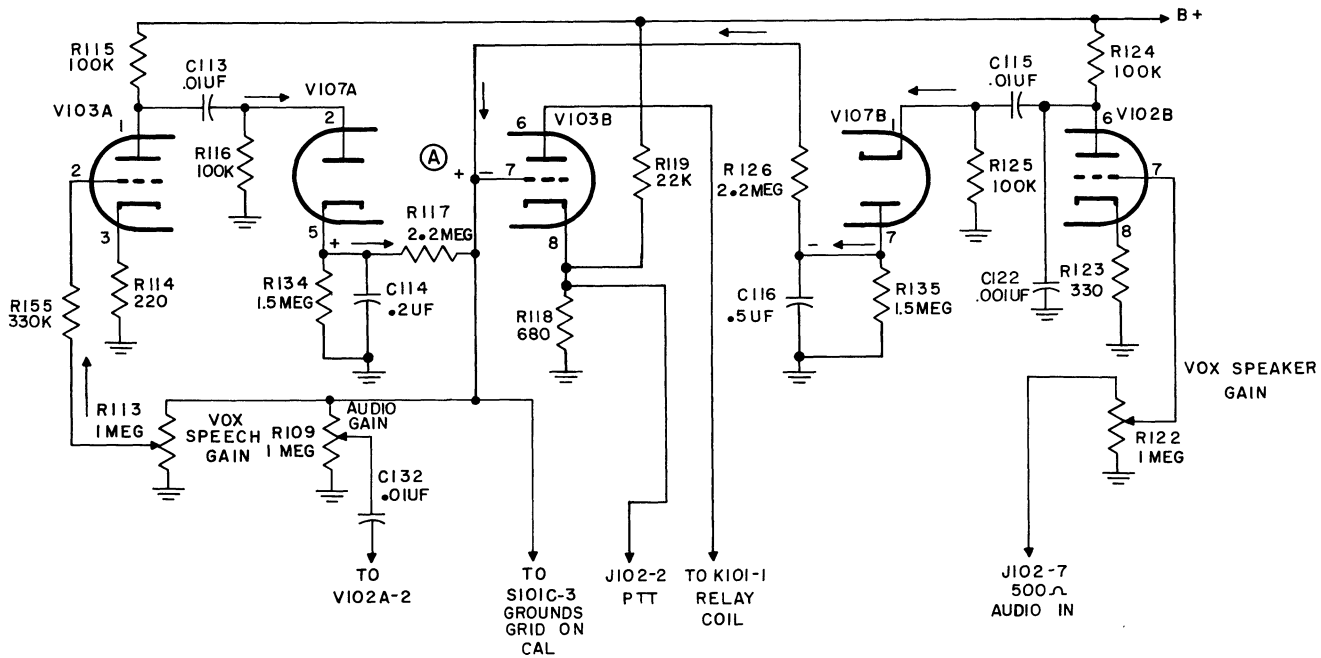

Figure 4-2. VOX Circuits, Simplified Schematic Diagram
Part of the audio output from V101 is taken off the AUDIO GAIN potentiometer R109 and fed through the VOX SPEECH gain control R113 to the control grid of amplifier V103A. Thus, by R113, the amplitude of audio signals applied to V103A is regulated. V103A amplifies the signal, which is then coupled through C113 to rectifier V107A. (See figure 4-2.) This circuit includes the diode d-c return resistance R116, and diode load C114.
The purpose of squelch amplifier V102B and rectifier V107B is to prevent the audio signals of the receiver from operating K101 relay by feedback of the audio signals through the transmitter microphone and audio circuits. A connection is made to the receiver output transformer, which feeds the speaker audio signals into the transmitter through J102-7, through the VOX SPEAKER gain control R122, to the grid of V102B. At the same time, the same speaker signals are feeding through the transmitter microphone into the VOX amplifier V103A to produce a plus voltage on the V103B grid, to operate relay K101. However, the voltage applied to the V102B squelch circuit is amplified and fed through C115 to the cathode of rectifier V107B. This rectifier circuit is identical to V107A, except V107B is connected in reverse, such that a negative voltage is produced and applied through R126 to the grid of relay amplifier V103B. This occurs at the same time the plus voltage is being applied from V107A, at point (A) in figure 4-2. The plus and minus voltages are adjusted by potentiometers R113 and R122 to a point at which they balance out, preventing the receiver speaker signals from operating the transmitter relay K101.